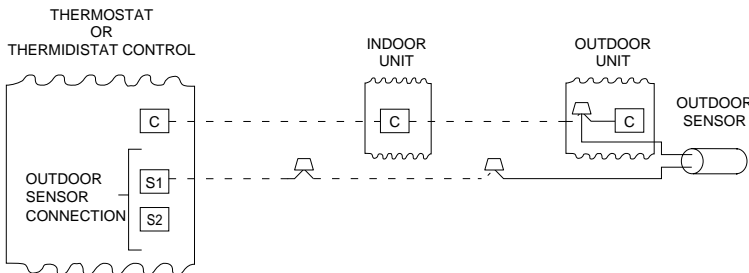

Fig. 4 — Thermostat or Thermidistat Control - Outdoor Unit Connection
Locating the sensor under the outdoor unit may simplify both wiring and mounting. There is the likelihood that an unused thermostat wire may exist between the indoor and outdoor unit. Use this wire to carry the temperature sensor signal from the outdoor to the indoor unit. However, another single wire must still be used between the indoor unit and the indoor termination point. (See Fig. 4 and 5.)
2. Route the sensor wires inside the unit to near the 24-vac connection terminals. Connect 1 sensor wire to the spare wire in the control cable using a supplied wire nut. Connect the other sensor wire to the "C" junction. (See Fig. 4 and 5.) At the indoor unit, a single wire must connect from the spare wire to terminal OAT (zoning system) or terminal S1 (thermostats and/or Thermidistat Control).
Locating the sensor under the top overhang of the outdoor unit could simplify both wiring and mounting. The sensor may also be mounted under the top overhang above the service ports. The wiring for this method will be the same as for mounting the sensor under the unit. (See Fig. 4 or 5.)
2. Route sensor wires into control box wiring area and connect as instructed for Procedure 2 above. The wiring for this method will be the same as for mounting the sensor under the unit. (See Fig. 4 and 5.)